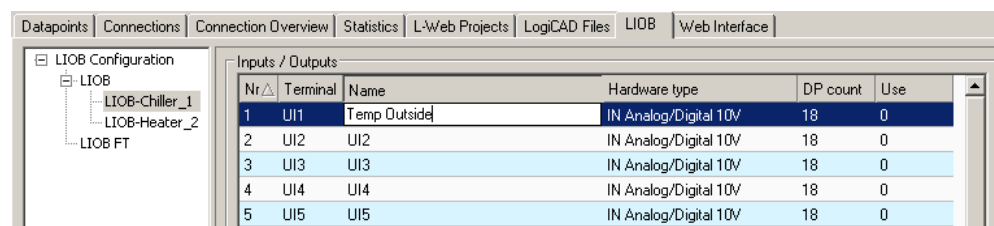

Figure 46: Change L-IOB terminal names for your installation.
2. Select a L-IOB device in the tree on the left-hand side and enter names for the terminals by double-clicking into the **Name** column as shown in Figure 46.